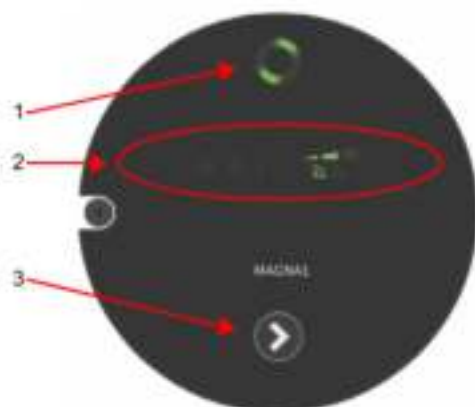

Fig. 27 Control panel
Grundfos Eye is on when you switch on the power supply. See fig. 27, pos. 1.
The pump has nine performance settings which you can select with the push-button. See fig. 27, pos. 3.
The pump setting is indicated by eight light fields in the display. See fig. 27, pos. 2.